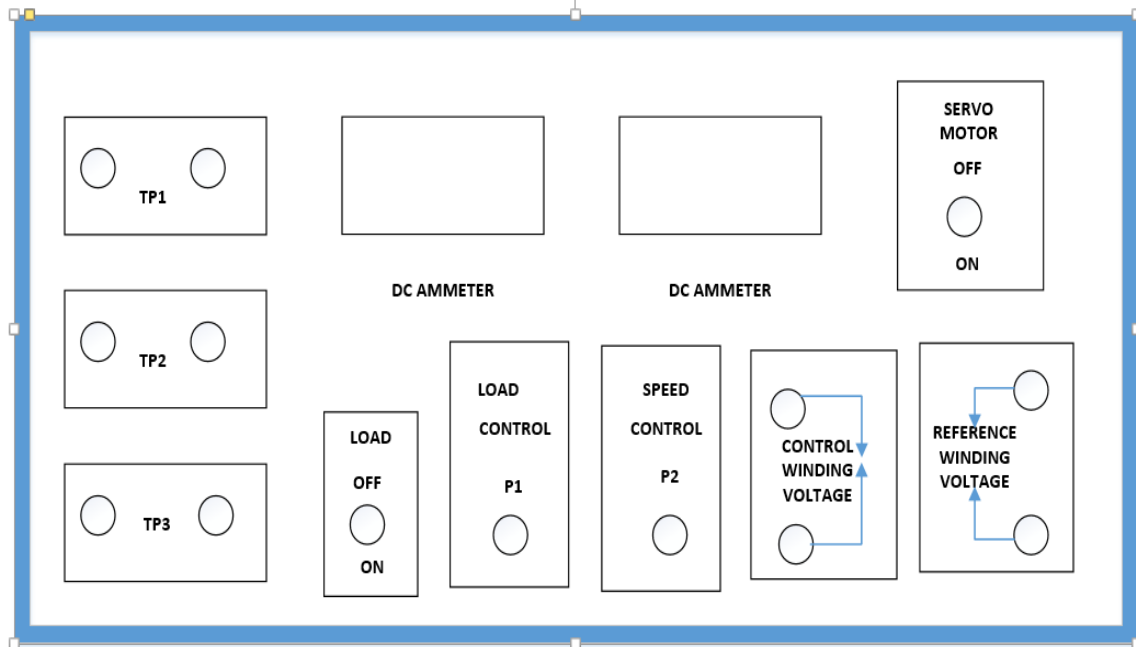

Figure 3 – Front panel of AC Servo-motor Controller
1. Calculate the different armature currents (i.e I_a equal I_a plus if) for AC servo motor under various Loads for figure 3.